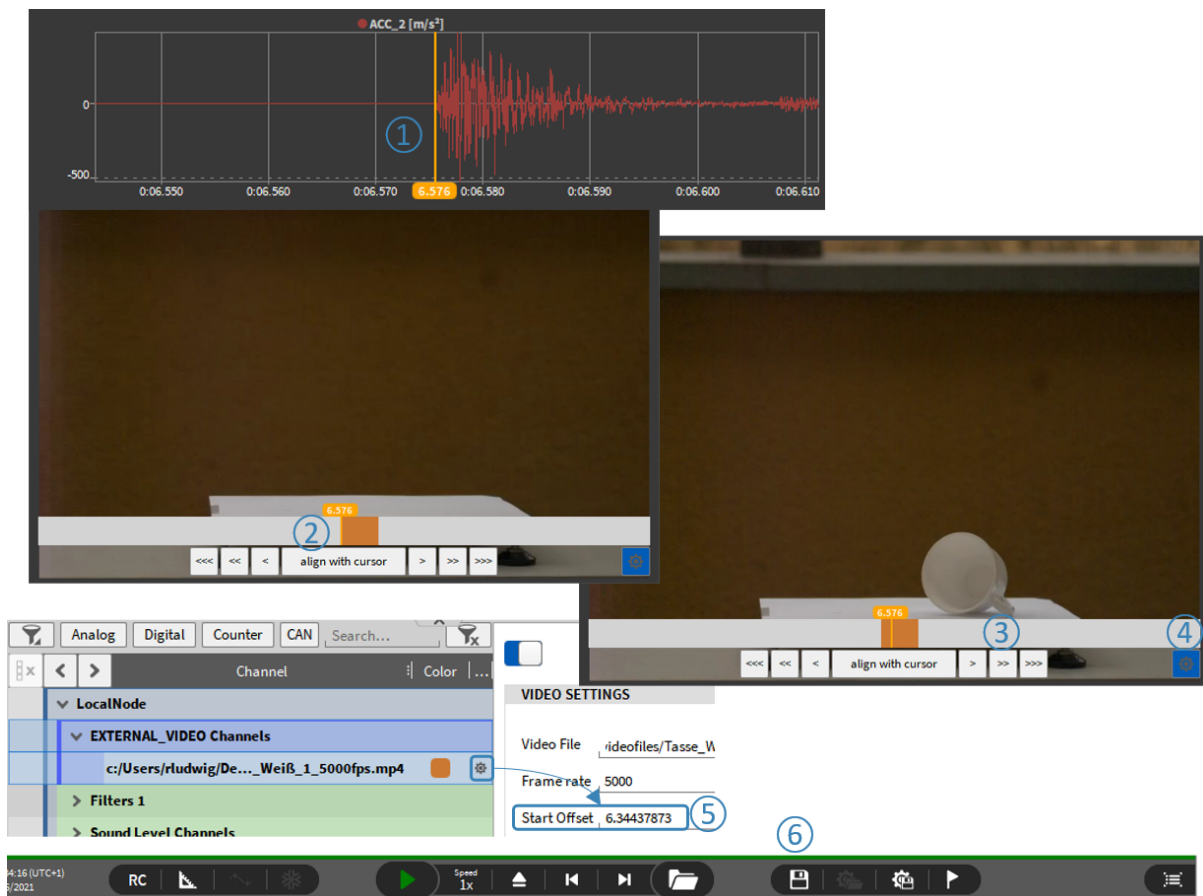

Fig. 7.157: Alignment of sensor and video data
1. Use the Recorder to move the orange cursor to the reference event for data synchronization (see ① in Fig. 7.157)
2. Press *align with cursor* to move the video start to the orange cursor position for a rough time adjustment (see ② in Fig. 7.157)
3. For fine time adjustments, use the <<<, <<, < & >, >>, >>> buttons to align the timeline (see ③ in Fig. 7.157)
4. When finished, the timebar can be hidden (see ④ in Fig. 7.157)
5. The absolute time offset can also be seen in the video's channel setup (see ⑤ in Fig. 7.157)
6. The settings can be saved to the data file (see ⑥ in Fig. 7.157)